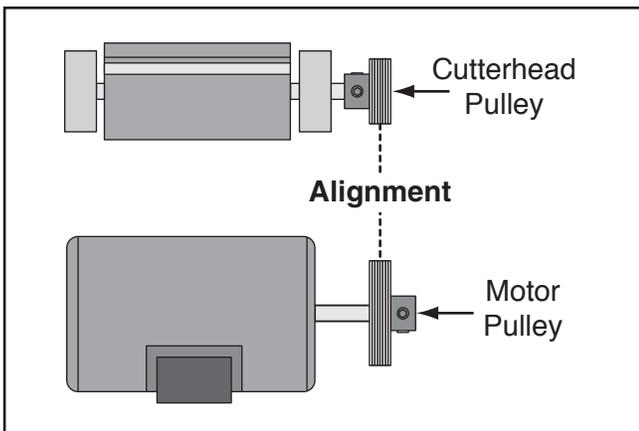

Figure 19. Example of pulleys aligned.
- Verify alignment of cutterhead and motor pulleys, as illustrated in **Figure 19**.